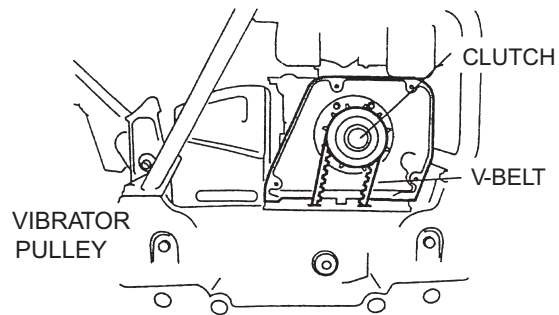

Figure 25. V-Belt Check
1. After 200 hours of operation, remove the belt cover to check the V-belt tension (Figure 25). Tension is proper if the belt bends about 3/8" (10 mm) when depressed strongly with finger between shafts. Loose or worn V-belts reduces power transmission efficiency, causing weak compaction and reduces the life of the belt itself.